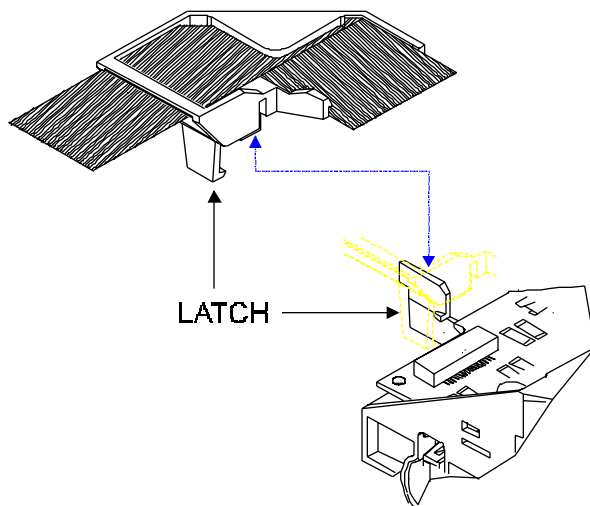

Figure 5-4. Strain Relief Removal/Installation from Carrier.
6. Remove the Trailing Cable and Strain Relief from the Carrier Assembly by releasing the latch on the left lower side of the Strain Relief and lifting it off of the Carrier Assembly. See Figure 5-4.
7. Insert the Strain Relief (with Trailing Cable) onto the Carrier Assembly by sliding it onto the Strain Relief Support until it snaps firmly into place. See Figure 5-4.